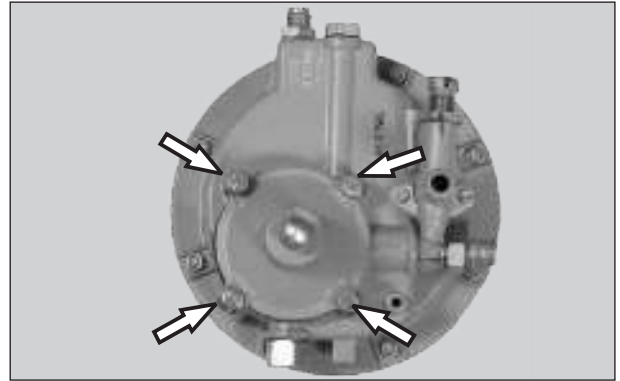

Fig. 8.27
- Loosen and remove 4nos. Hexagonal screw M6x12 along with 4nos. Wave spring washer from bonnet second stage. (Fig. 8.27)